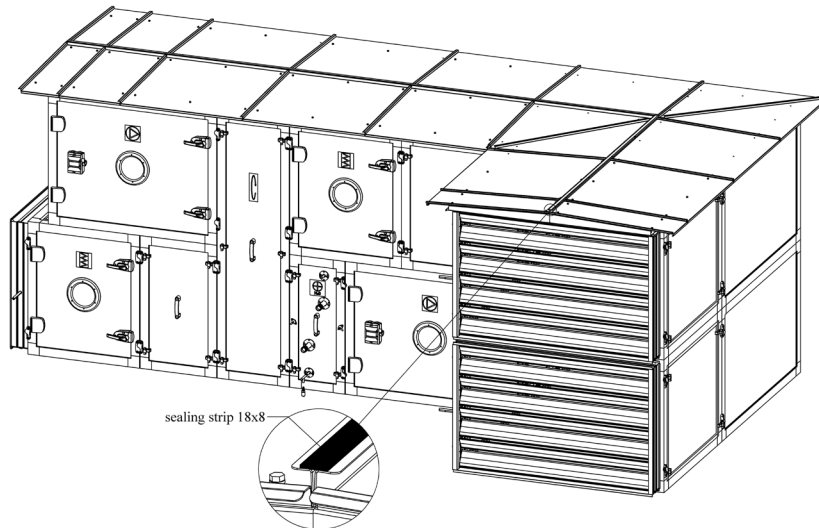

Figure 9.6
7. Apply supplied sealing strip 18x8 on segments in the middle, as shown in Figure 9.6.